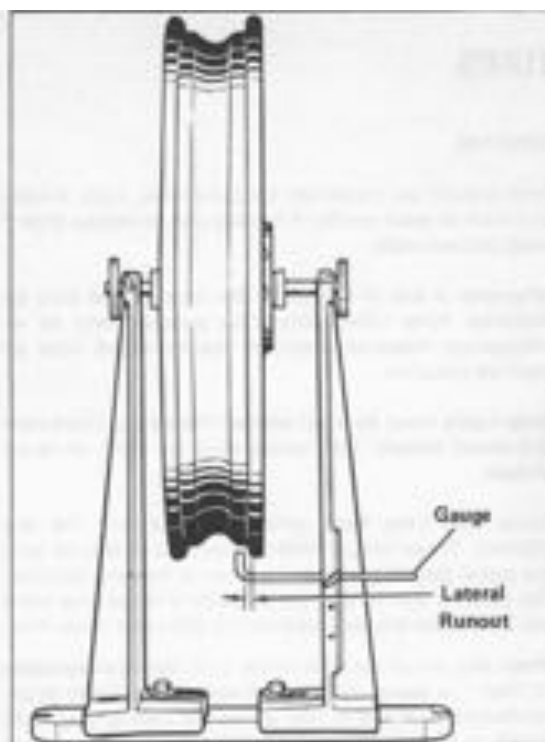

Figure 2-18A. Checking Cast Rim Lateral Runout
1. See Figure 2-18A. Install arbor in the wheel hub and place wheel in the truing stand. To check rim lateral runout, place a gauge rod or dial indicator near the rim bead. If lateral runout exceeds  $3/64$  in., replace the wheel.